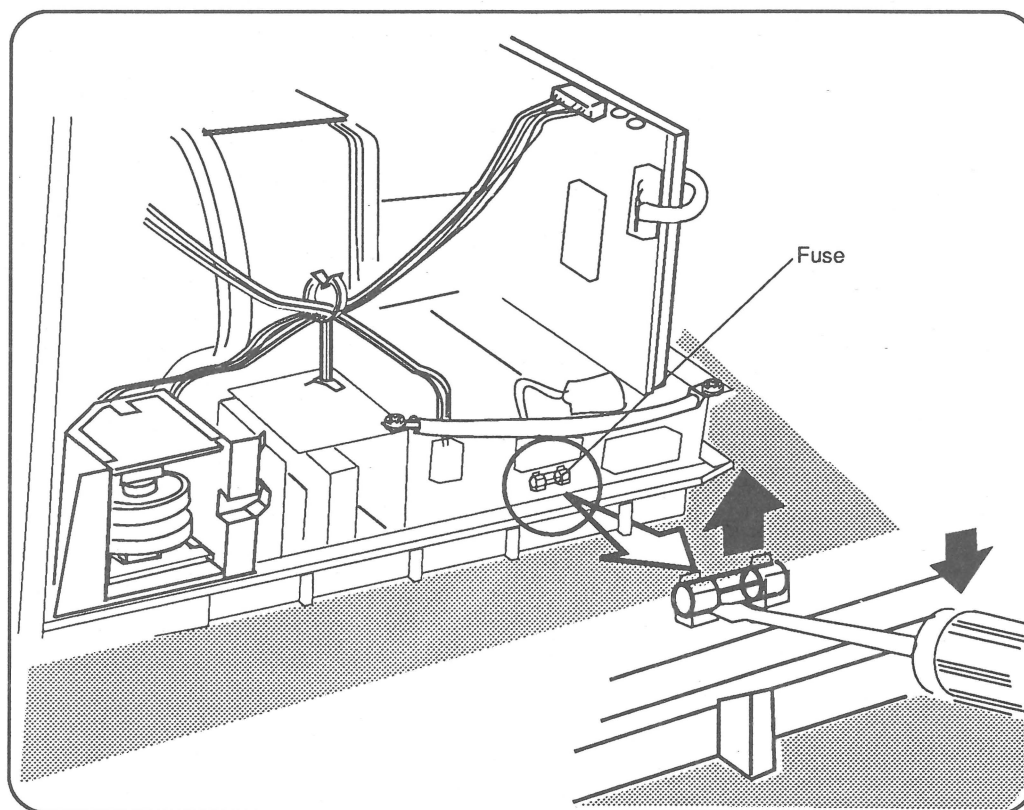

Figure 2-5 Removing the Fuse
3. **Figure 2-5.** Using the small flat-blade screwdriver, pry the defective fuse out of connector **F901** on the main deflection board.
1. **Figure 2-5.** Install a new fuse in connector **F901** on the main deflection board.